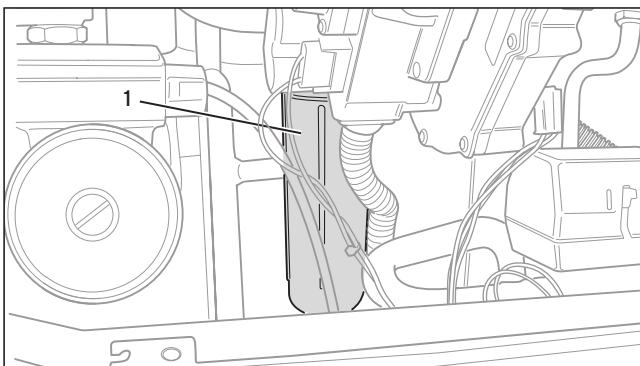

Fig. 7.6 Cleaning the condensate trap
- Unscrew the bottom section (1) of the condensate trap (see fig. 7.6).